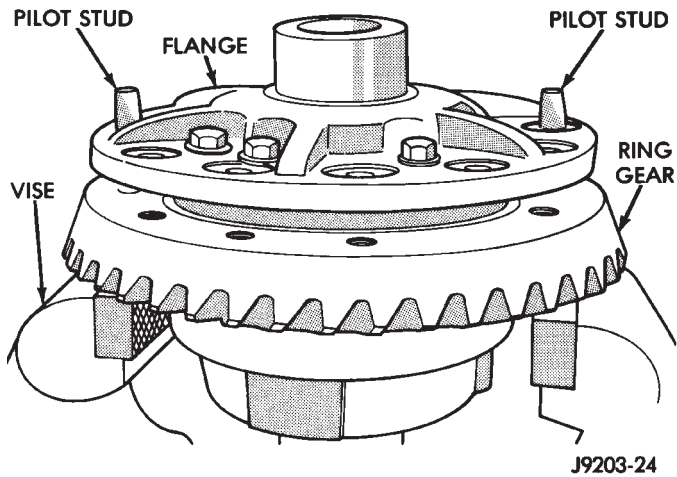

Fig. 18 Case-To-Ring Gear Alignment
- (3) Position the thrust washers on the differential pinion gears. Mesh the pinion gears with the side gears. **Ensure that the pinion gears are exactly 180 degrees opposite each other.**
- (4) Rotate the side gears to align the pinion gears and thrust washers. Align these components with the mate shaft bores in the case.
- (5) If ring gear was removed, clean all contact surfaces. Use an Arkansas stone or fine file to remove any sharp areas from the chamfered inside diameter.
(6) If removed, heat ring gear with a heat lamp or by immersing in a hot fluid. The temperature should not exceed 149°C (300°F). **Do not use a torch to heat the ring gear.**
(7) Position heated rear gear on case. Use two equally spaced Pilot Studs C-3288-B to align the gear with the flange holes (Fig. 18).